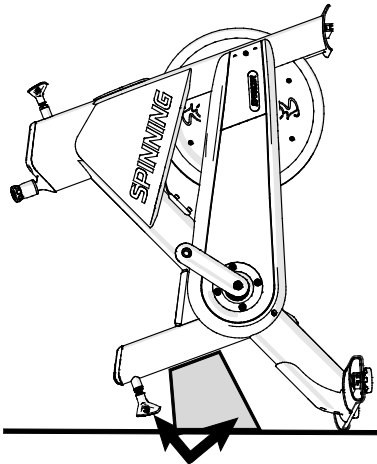

Figure 4
- Stand the bike frame on its back end and place a piece of foam under the bike frame (Figure 4) to protect the seat adjustment pop-pin stem from damage.